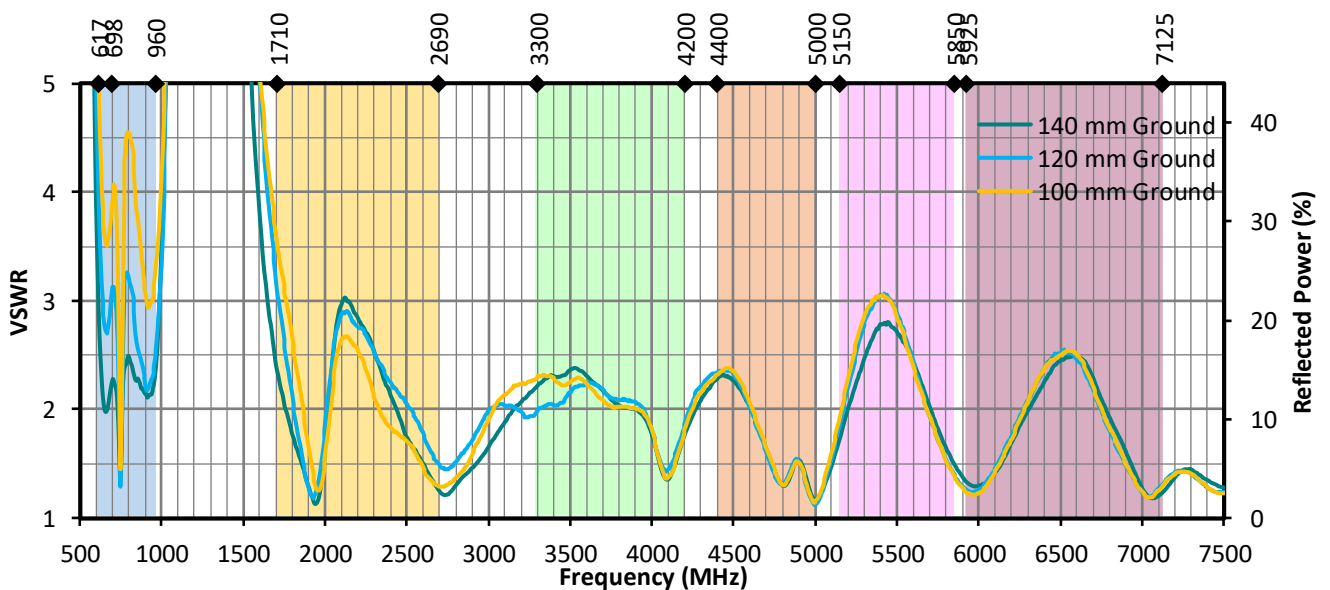

Figure 5. Antenna VSWR, Evaluation Kit
**Figure 5** provides the voltage standing wave ratio (VSWR) across the antenna bandwidth. VSWR is a function of the reflection coefficient, which describes the power reflected from the antenna back to the radio. A lower VSWR value indicates better antenna performance at a given frequency. Reflected power is also shown on the right-side vertical axis as a gauge of the percentage of transmitter power reflected back from the antenna.